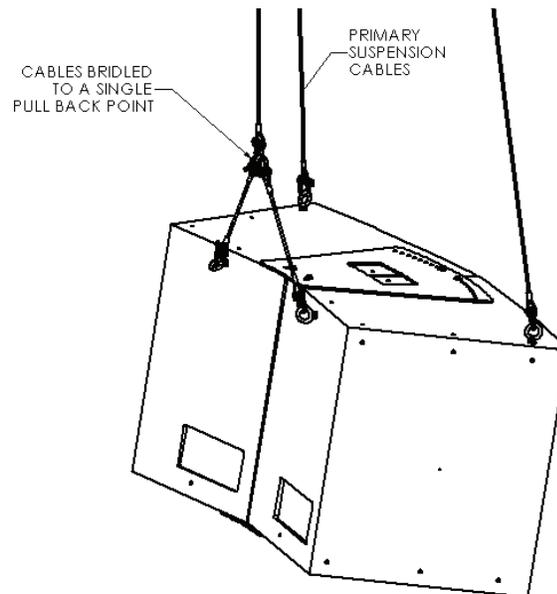
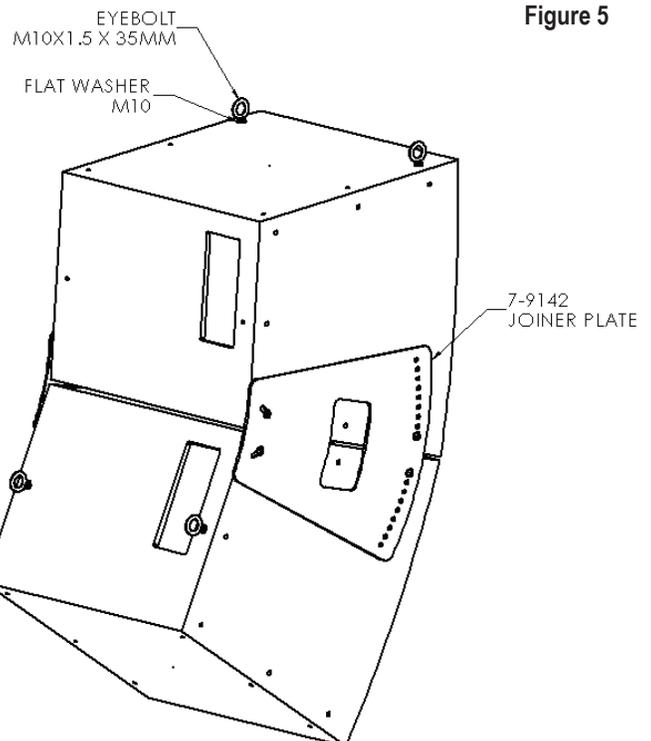

Figure 4
Figure 5
Step 7: Attach a load rated suspension cables or chains on the top front eyebolts. Use the rear eyebolts for pull back points and to adjust the tilt angle of the loudspeaker cluster assembly as shown in the main illustration (Figure 4).
Flip speakers so that the bottom is facing up. Arrange speaker so that the EVF1181S is in between the EVF1152S. Unscrew existing speaker screws and discard (Figure 4).
Step 8: Install the rear joiner plate on the two middle rigging inserts of the EVF1181S subwoofer using the provided screws and washers. Attach the two EVF1152S side speakers with the EVF1181S subwoofer using the lower slots of the rear joiner plate with the provided screws and washers (Figure 4).
Step 9: Install the front joiner plate on the two front rigging inserts of the EVF1181S subwoofer using the provided screw and washer. Determine the holes to use for the selected splay angle (Figure 2) then secure the EVF1152S side speakers to the front joiner plate using the provided screws and washers (Figure 4). Do not tighten screws; leave it snug until all plates are in position.
Step 17: Figure 5 Install the two m10x 50mm long eyebolt on the side rigging inserts of the selected upper Figure 4 speakers Install the two m10x35 mm long on the rear rigging inserts of the EVF1181S or to the rear rigging insert of the bottom EVF1152S (depending on the desired tilt angle) for pull back points (Figure 5).